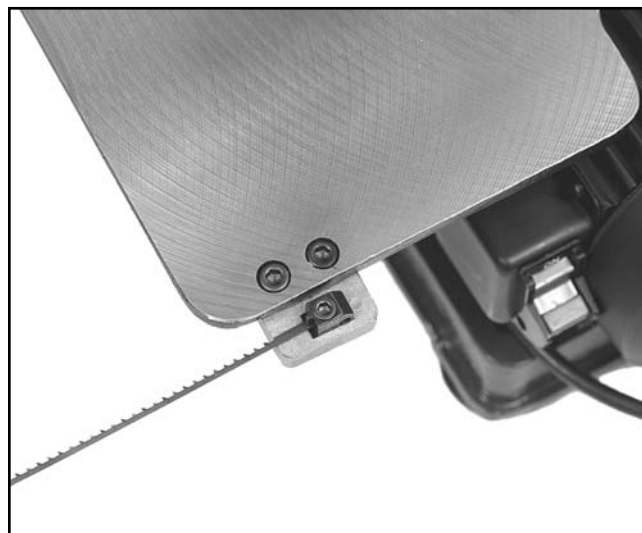

Figure 4.
3. Mount Blade in Chucks. This can be done with the help of the Chuck Holder, located on the right edge of the table. **Figure 4.**